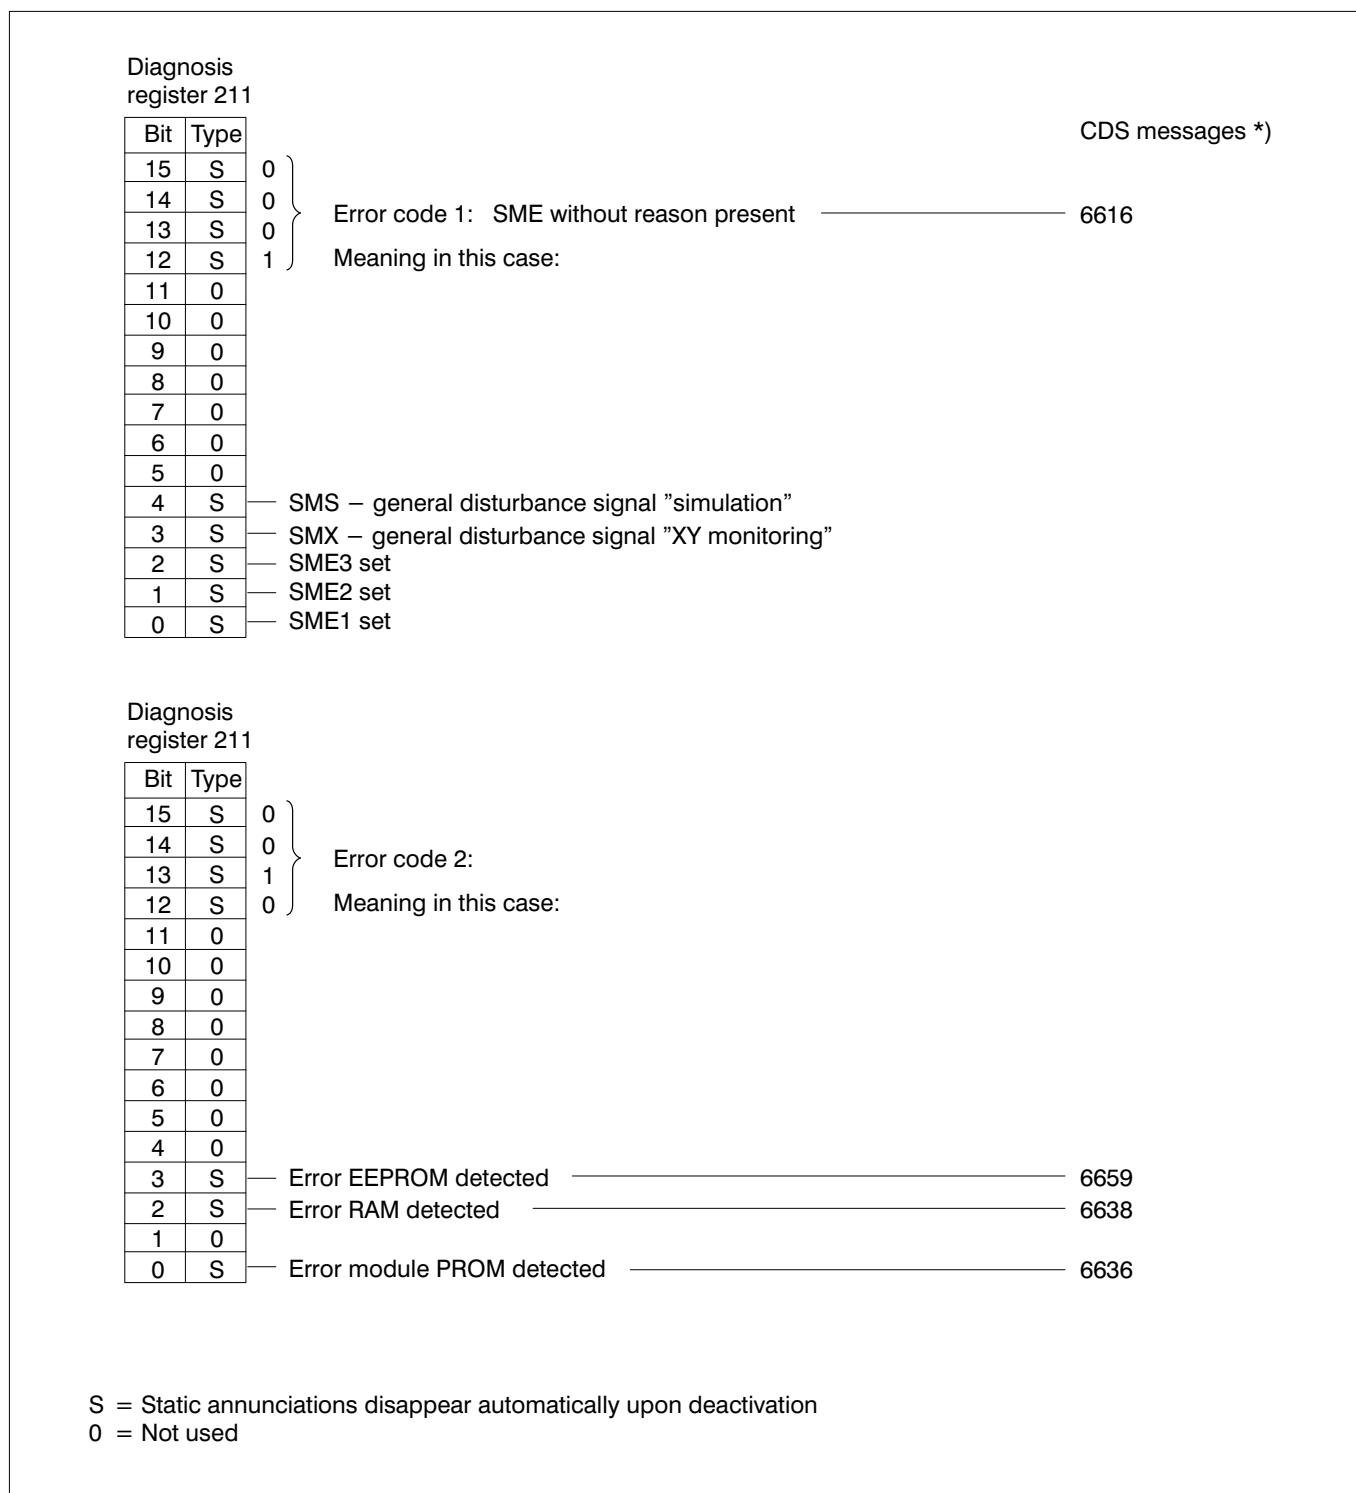

Fig. 3: Diagnosis messages of 88QT03, register 211
The disturbance signal inputs SME1, SME2, SME3, SMS and STX on connector X21 are used for the diagnosis of external disturbance signals and are stored in the diagnosis register (register address 211). See Fig. 3.
**) If "Bus coupling fault" is indicated in the diagnosis register the cause of the disturbance is located in the input/output station and indicated in the additional diagnosis register (register 211). See Figs. 3 to 4.